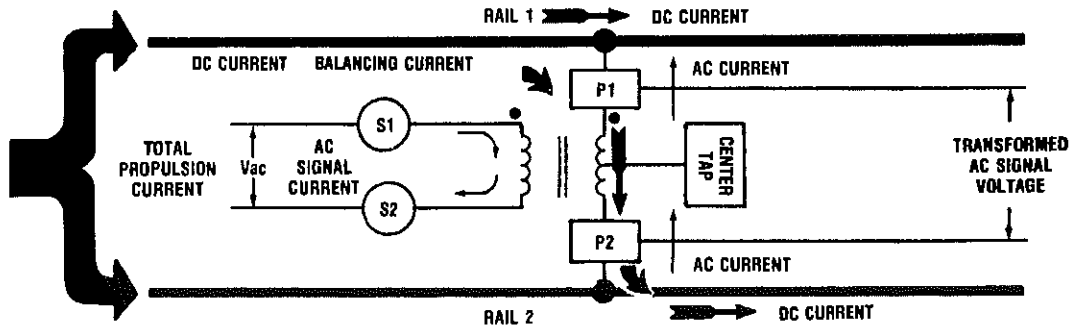

Figure 3-2C
3. Enters at one rail and exits at the other rail. Usually, the center-tap would not be used, see Figure 3-2C.